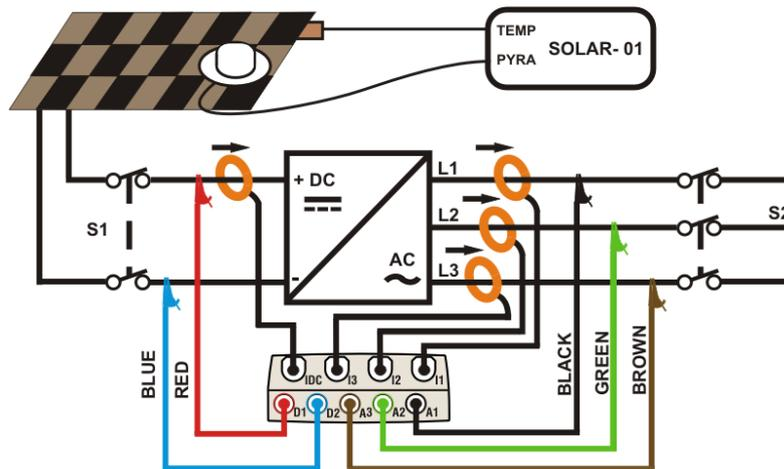

Fig. 250: Connecting the instrument in a PV-3 system with SOLAR-01
2. Connect inputs **D1** and **D2** to the positive and negative string output pole respectively. Connect inputs **A1**, **A2** and **A3** to the phase conductors, respecting the colors as shown in Fig. 250
3. Connect the DC current clamp to the positive string output conductor **by respecting the direction of the arrow** on the clamp itself as indicated in Fig. 250. **Check the status of internal batteries of the DC clamp after the connection to the installation**
4. Connect the AC clamps to the Phase L1, L2, L3 conductors **by respecting the direction of the arrow** on the clamps as indicated in Fig. 250. Connect the output of the clamps to the **I1**, **I2**, **I3** input of the instrument respectively